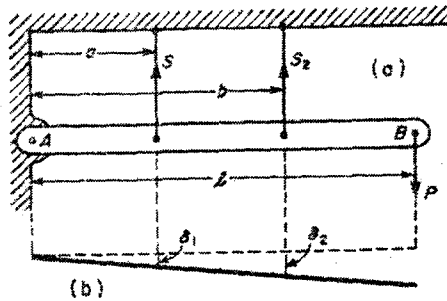

Fig. 1a
1) a) A rigid bar  $AB$  is hinged at  $A$  and supported in a horizontal position by two identical vertical steel wires as shown in Fig. 1a. Find the tensile forces  $S_1$  and  $S_2$  induced in these wires by a vertical load  $P$  applied at  $B$  as shown.